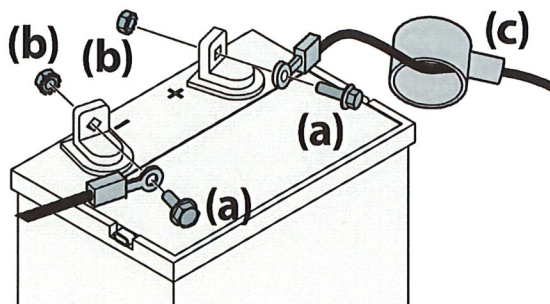

Figure 11
1. If present, remove the plastic cover from the positive battery terminal. Attach the red connector to the positive battery terminal (+) using the bolt (a) and hex nut (b). See Figure 11.
2. If present, remove the plastic cover from the negative battery terminal and attach the black cable to the negative battery terminal (-) with the bolt (a) and hex nut (b). See Figure 11.
3. Position the red rubber boot (c) over the positive battery terminal to help protect it from corrosion. See Figure 11.